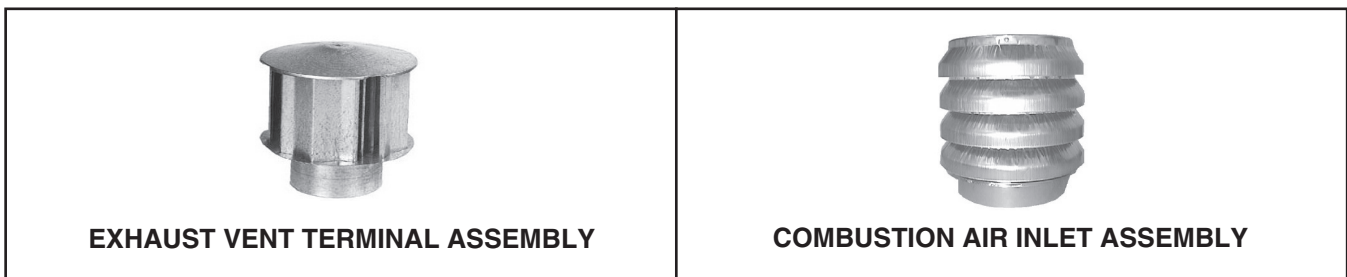

**Figure 13. Horizontal and Vertical Venting Options—Separated-Combustion Installations**
- Vent terminal options:** Vent terminal options CC2 (vertical vent configuration) and CC6 (horizontal vent configuration) for separated-combustion installations are shown in Figure 13.